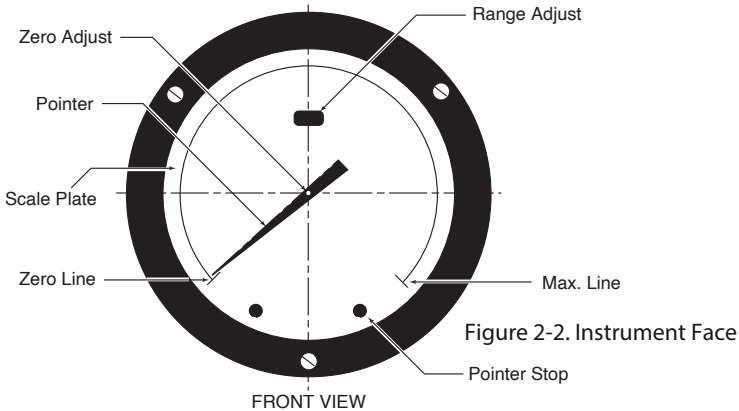

Figure 2-2. Instrument Face
2. Using a flat-blade screwdriver, remove the three (3) or (9 on SST case) bezel screws (see Figure 2-2).